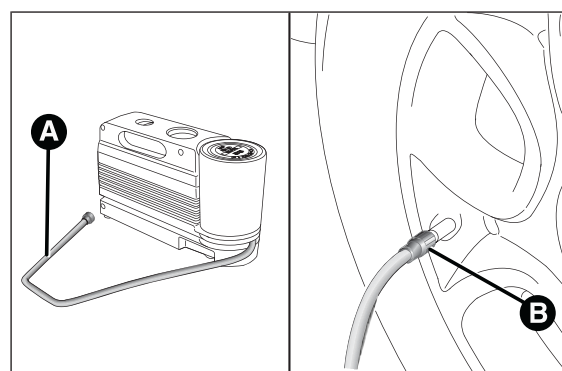

fig. 110
- ☐ **Pull up the handbrake.** Unscrew the tyre valve cap, take out the flexible filler pipe A fig. 110 and tighten the ring nut B on the tyre valve;